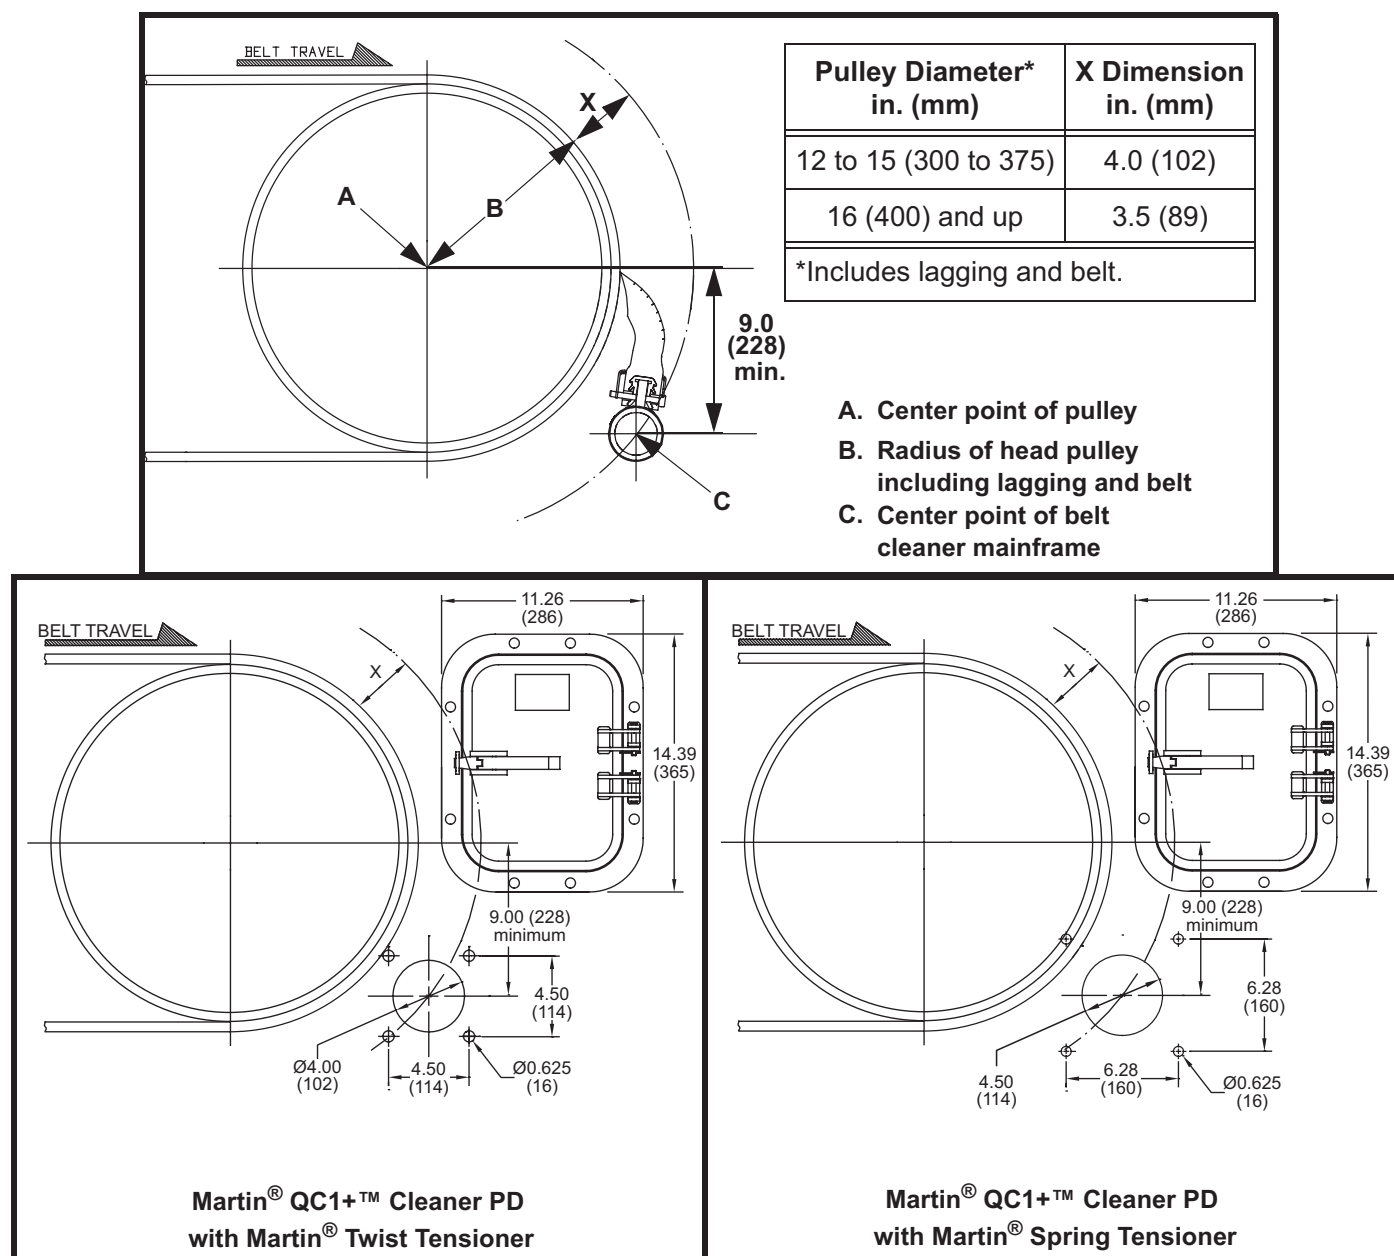

Figure 2. Belt Cleaner Mainframe Location
1. On operator side of chute, find pulley center point (A).
2. Measure radius of head pulley including lagging and belt thickness (B). To this dimension, add dimension X from the Table in Figure 2.
3. Starting from center point (A), measure the total distance calculated in step 2 ($B + X$) and draw an arc on chute wall.
4. Measure down from pulley's horizontal centerline the distance shown in Figure 2 and draw a horizontal line parallel to it. Locate center point of belt cleaner mainframe (C) where this line intersects the arc on the chute wall.